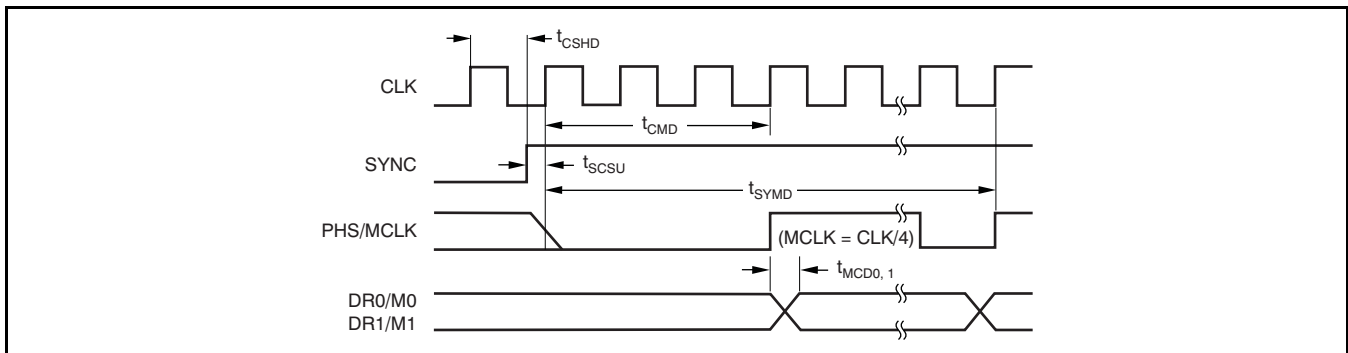

**Figure 24. Modulator Mode Timing**
The modulator output is composed of three signals: one output for the modulator clock (PHS/MCLK) and two outputs for the modulator data (DR0/M0 and DR1/M1). The modulator clock output rate is  $f_{MOD}$  ( $f_{CLK}/4$ ). Synchronization resets the MODCLK phase, as shown in Figure 24. The SYNC input is latched on the rising edge of CLK. The MODCLK resets and the next rising edge of MODCLK occurs three CLK periods later, as shown in Figure 24.
**Table 2. Modulator Output Timing for Figure 24**